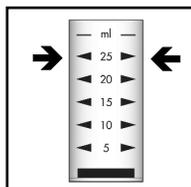

Figure 1
1. Fill the sample cup to the 25 mL mark with the sample to be tested (fig 1).
2. Fill the sample cup to the 25 mL mark with the seawater sample to be tested (fig 1).